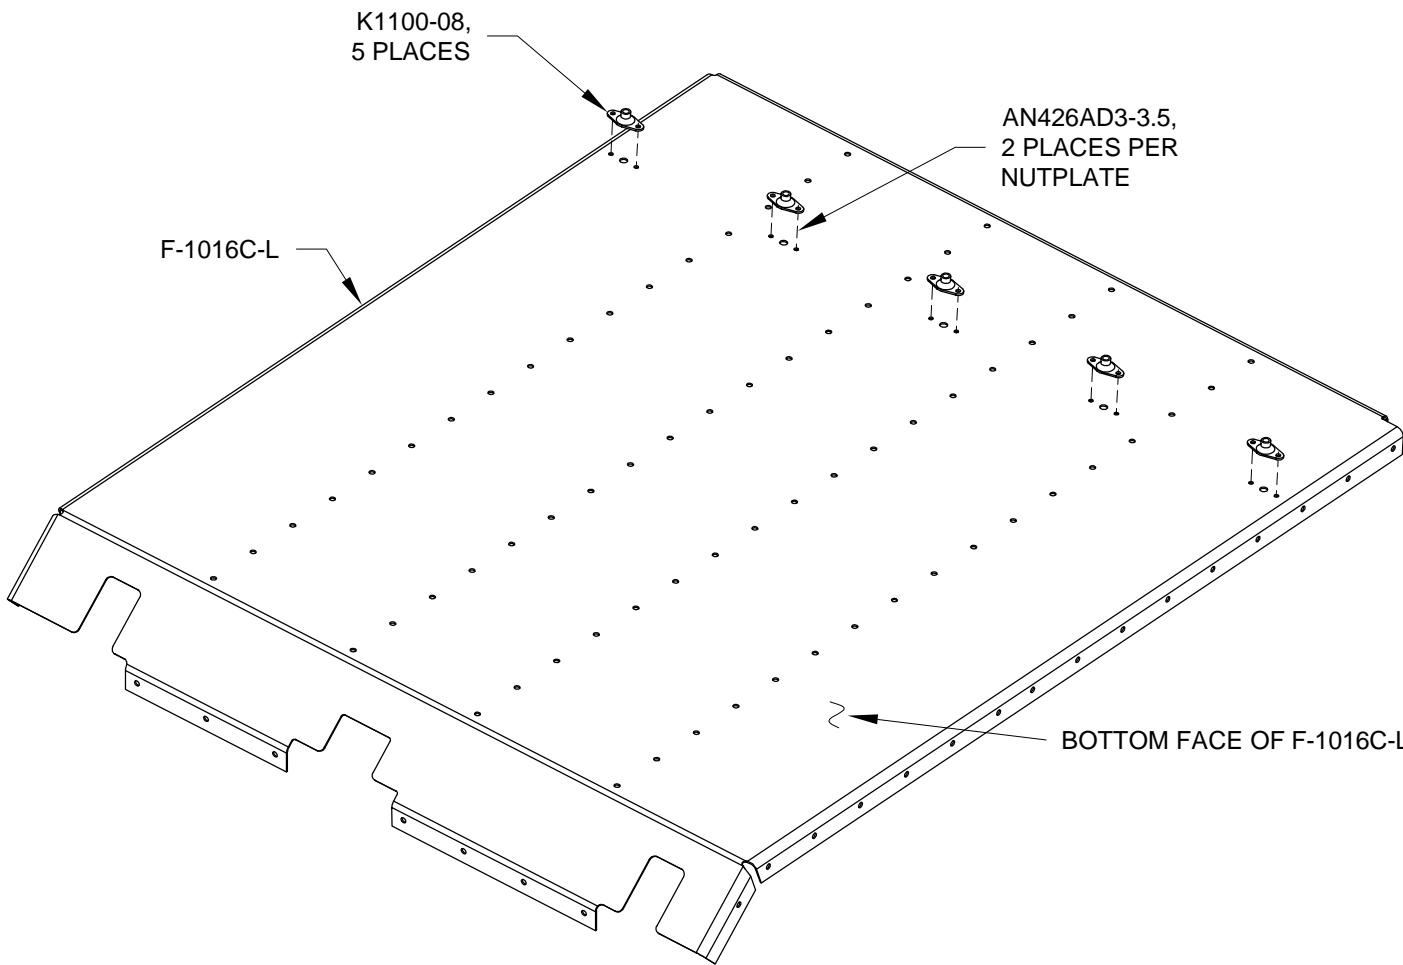

FIGURE 1: FLOOR PAN NUTPLATE INSTALLATION
Step 2 (Standard Kit): Final-Drill #19 the screw holes and Final-Drill #40 the corresponding nutplate attach holes in the bottom face of the F-1016C-L Floor Pan. Final-Drill #30 the remaining holes in the bottom face of the floor pan. See Figure 1.
Step 3 (Standard Kit): Remove the F-1016C-L Floor Pan. Deburr the holes and edges of the floor pan and the holes drilled in the under structure in Step 2. Dimple all the rivet holes in the bottom face of the floor pan, see Figure 1. Dimple the screw holes in the bottom face of the floor pan for the head of an #8 screw (flush face on top side). Prime the floor pan if desired. Dimple the nutplates.
Step 4 (Standard Kit): Rivet the five nutplates to the bottom side of the F-1016-L Floor Pan per the callouts in Figure 1.